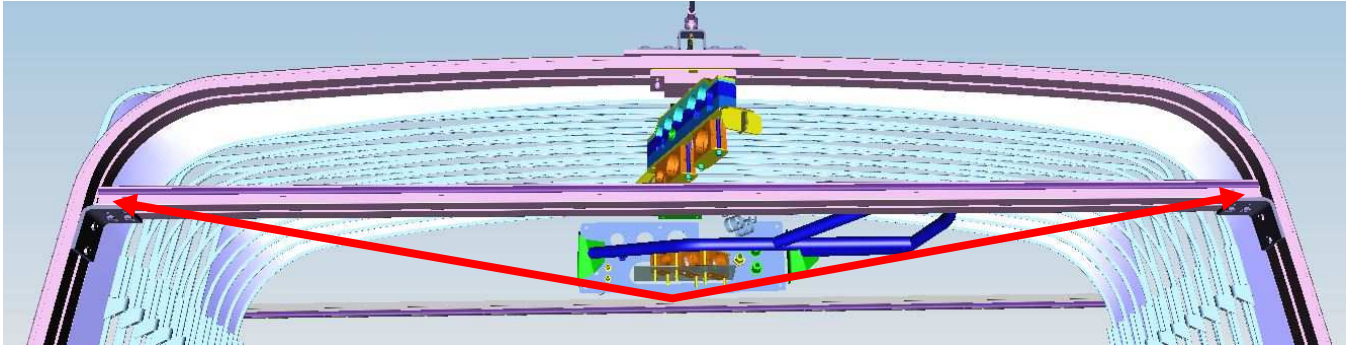

Figure 6: Check to ensure gaps are equal.
6. Check to ensure that you have an equal gap on each side of the false ceiling strut after adjustment. Figure 6.